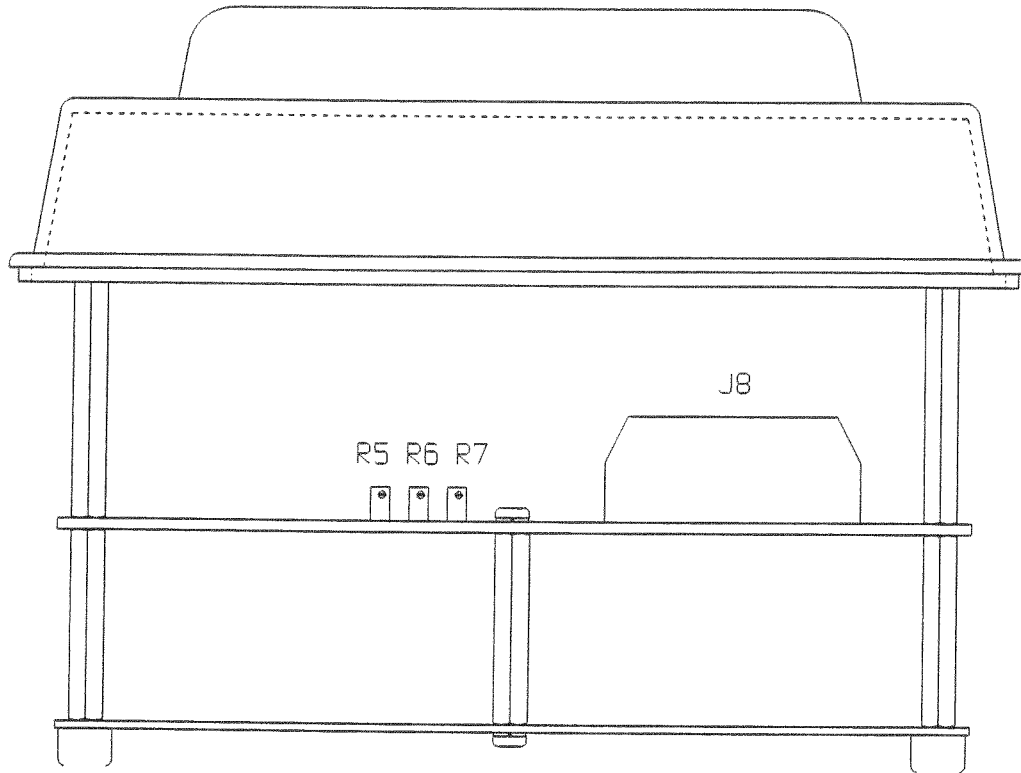

Figure 8: Location of Potentiometers
3. Locate the three potentiometers R5, R6, and R7 (output board). See Figure 8